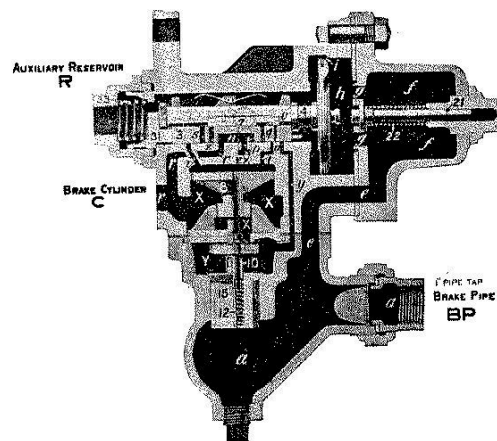
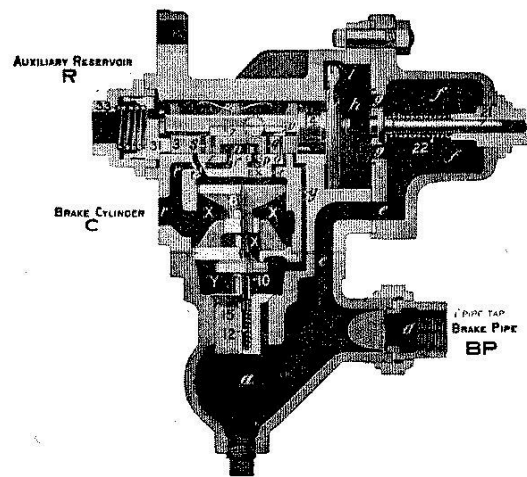

Fig. 13: Full Release and Charging Position.
Fig. 17: Retarded Release and Charging Position.
A. When air is admitted to the brake pipe it is free to enter the triple at "a" (see Fig. 13) and flow through the passage "e" to chamber "f", thence through port "g" to chamber "h" in front of the triple valve piston 4. Pressure forming in chamber "h" will force the piston to the left until its packing ring uncovers the feed groove "i" in the bushing, thus creating a communication between chamber "h" and the slide valve chamber. Brake pipe air will now be free to flow past the piston to the slide valve chamber and out at "R" to the auxiliary reservoir. Air will continue to feed through the groove "i" until the auxiliary reservoir and brake pipe pressures are equal, and it is then we say that the brake is fully charged. Brake pipe air entering chamber "a" will lift the check valve 15, and charge chamber "Y" to brake pipe pressure. When a gradual reduction of brake pipe pressure is
pressure in chamber "h" sufficiently to overcome the tension of the retarding spring 33, and the triple valve will remain in full release position, as shown in Fig. 13. Brake cylinder air will now be free to exhaust through port "r", large cavity "n" in the slide valve and port "p" leading to the atmosphere. If, however, the triple valve is near the head end of the train, and the brake pipe pressure builds up more rapidly than the auxiliary can recharge, an excess of pressure will be obtained in chamber "h" over that in the auxiliary reservoir, and will cause the piston 4 to compress the retarding spring 33, and move the triple valve parts to retarded release position as shown in Fig. 17.